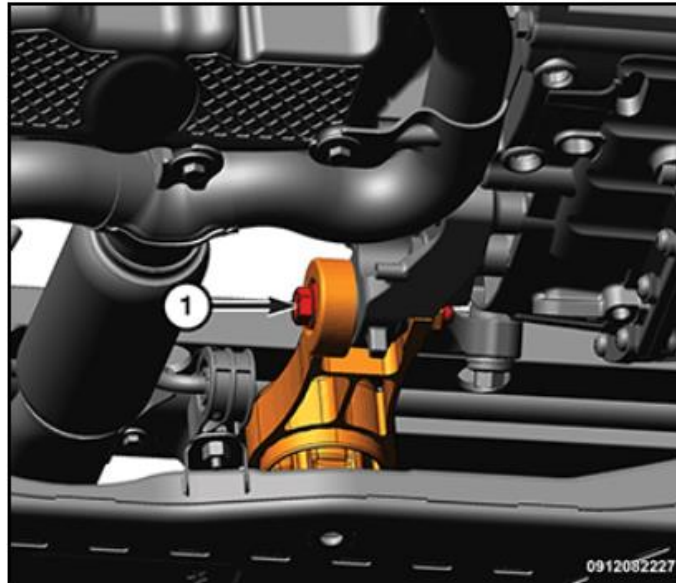

Fig 5. Rear Engine Torque Mount to Trans
**NOTE:** RU FWD rear engine torque mount shown (Fig 5).
3. Loosen the rear engine torque mount to transmission bracket bolt (Fig 5. Labelled 1).